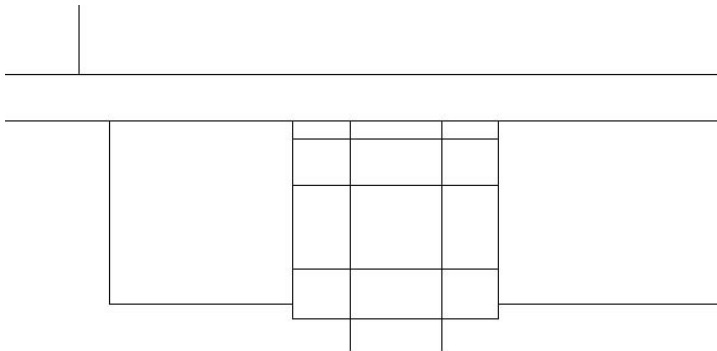

FIGURE 5.20: The guidelines for the centers of the burner circles
7. Offset this line 12" to the right (see Figure 5.20). The guidelines are set in place.